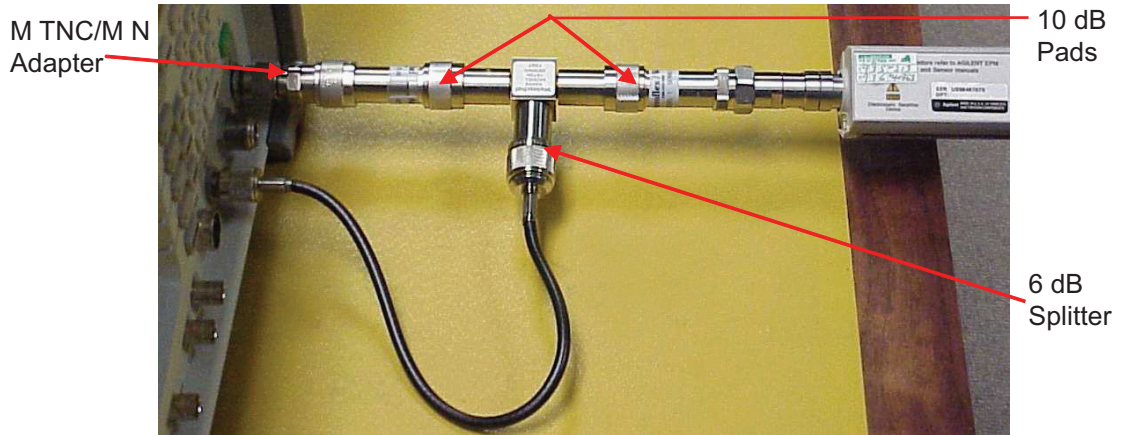

Fig. 4-16 IF Gain Calibration Setup
3.	Configure equipment. Refer to Fig. 4-16 as needed. If continuing from Splitter Calibration Procedure, remove 50 Ω load and F N/F TNC Adapter from M TNC/M N Adapter on ANT Port Side and connect M TNC/F N Adapter to Test Set ANT Connector.